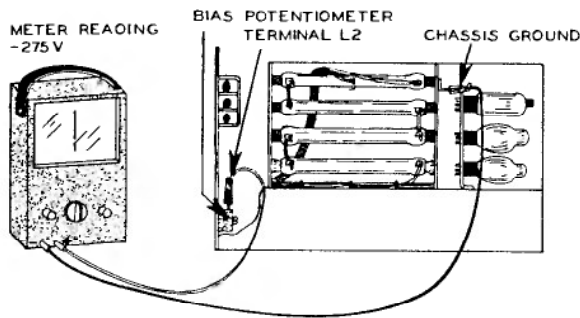

Figure 35A
- ( ) If normal operation is experienced, use a Volt-Ohm-Milliammeter and check the voltage from the bias adjust potentiometer center arm terminal L2 to ground, which should read about -275 volts. Refer to test setup shown in Figure 35A. Use CAUTION in making this check.